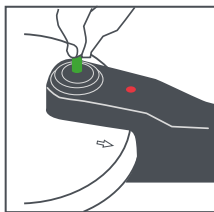

Fig. 13
Working valve (3) (Level model). This is the green plunger with rings. Hold it and pull it outwards. You will notice slight resistance and you will see the pressure indicator rings come out. The plunger will return to its initial position quickly when you release it (Fig. 13).